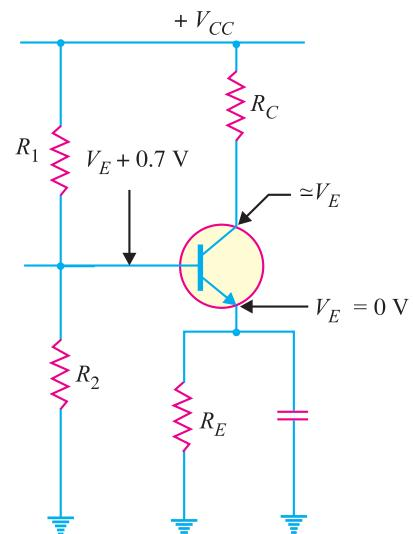

Fig. 9.53
10. What fault is indicated in Fig. 9.53 ? Give reasons for your answer. $[R_C \text{ is open}]$